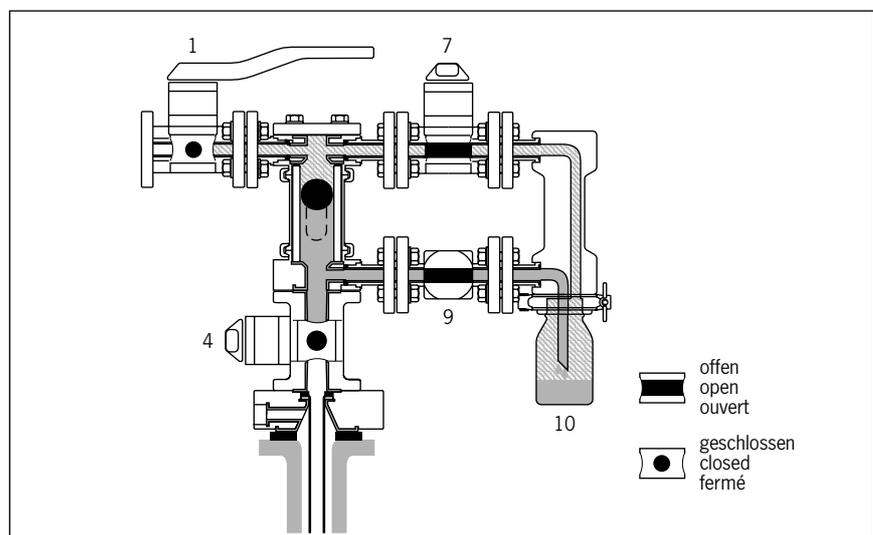

Figure 4 Filling the sampling flask
- ▼ Slowly close main valve (Fig. 4, item 4).
- ▼ Slowly close vacuum valve (Fig. 4, item 1).
- ▼ Slowly open vent valve (Fig. 4, item 7).
- ▼ Slowly open discharge valve (Fig. 4, item 9).
- ▼ Sample flows into the sampling flask (Fig. 4, item 10). The “residual gases” are returned to the process through the bypass or vent valve.